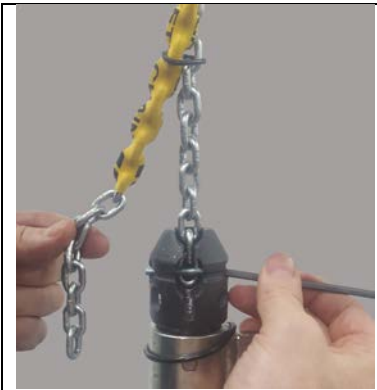

Figure 4-17
- Step 30. First, the last link of the load chain is installed into the top slot of the chain nest. The chain must be kept parallel with no twists. The bolt is installed in front of the last link of the load chain and into the chain nest. (Refer to Figure 4-17)